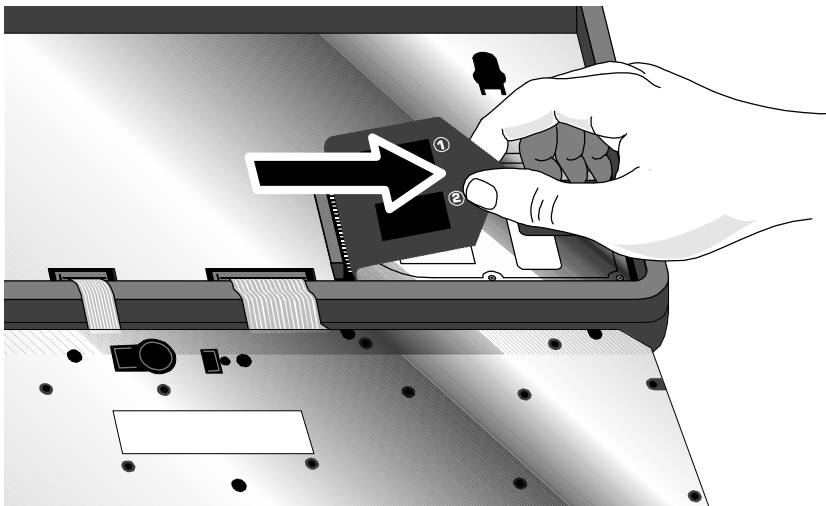

Figure 21 - Hard Drive Removal
5. Disengage the hard drive connectors by grasping the **left** flap of the plastic insulator and gently pulling straight to the right as shown in Figure 21.